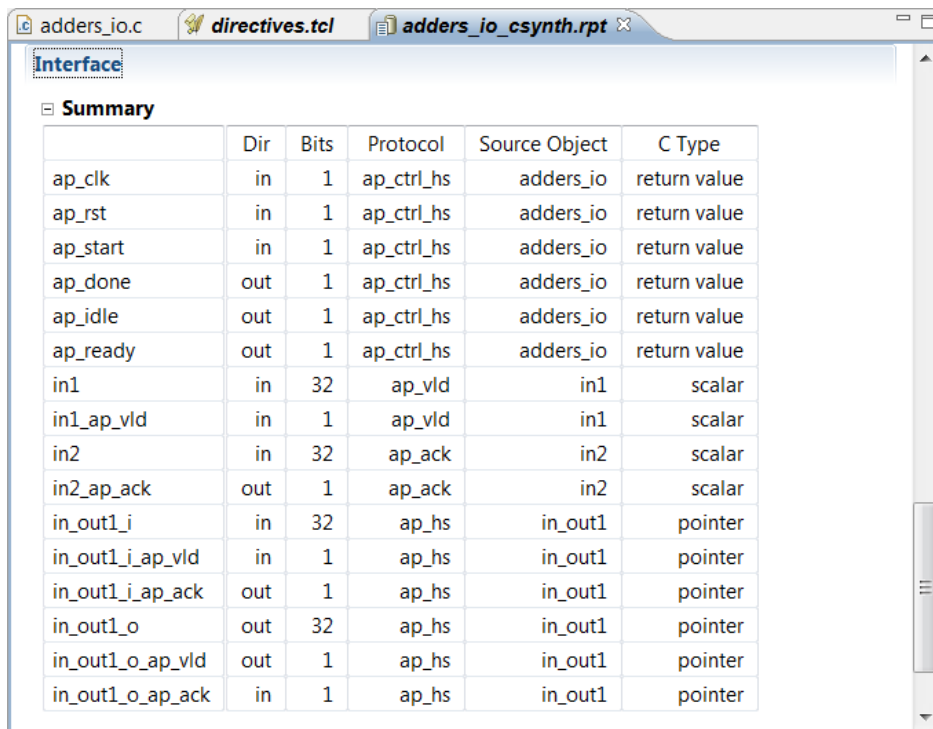

Figure 68: Interface summary for Lab 2
- Review the Interface summary when the report file opens (Figure 68).